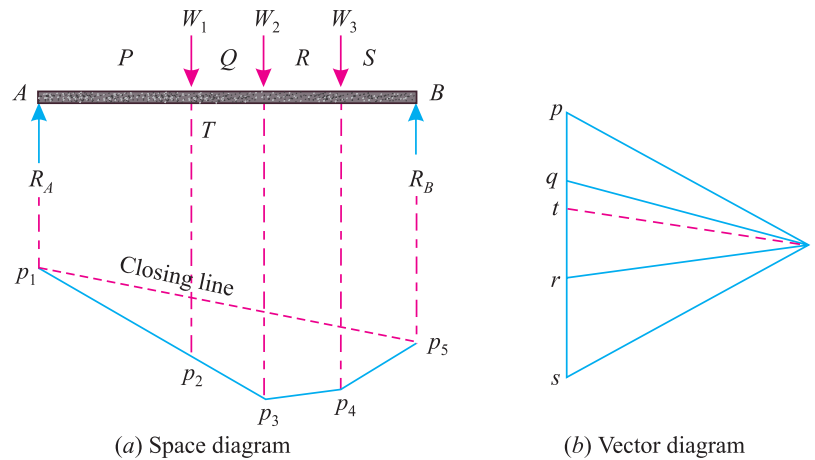

Fig. 12.5.
3. Select any suitable point  $o$  and join  $op$ ,  $oq$ ,  $or$  and  $os$  as shown in Fig. 12.5 (b).
8. Now the lengths  $tp$  and  $st$ , in the vector diagram, give the magnitude of the reactions  $R_A$  and  $R_B$  respectively to the scale as shown in Figs. 12.5 (a) and (b).